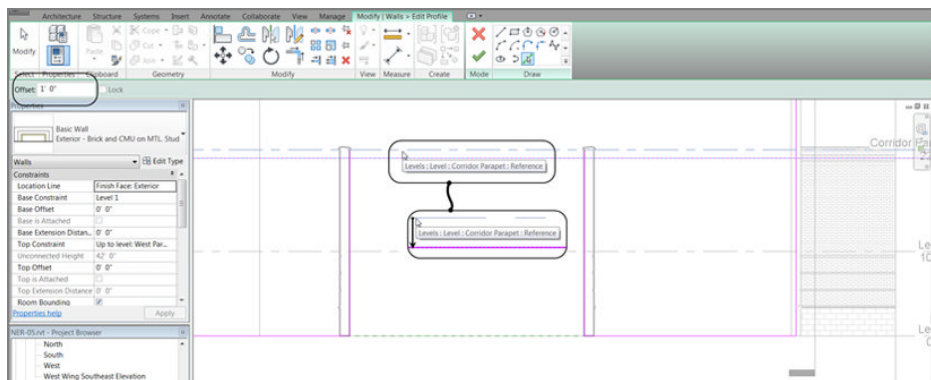

FIGURE 4.40: Offsetting the Corridor Parapet level down 1'-0" (300mm)
5. Select the Corridor Parapet level, and offset the line down, as shown in Figure 4.40.